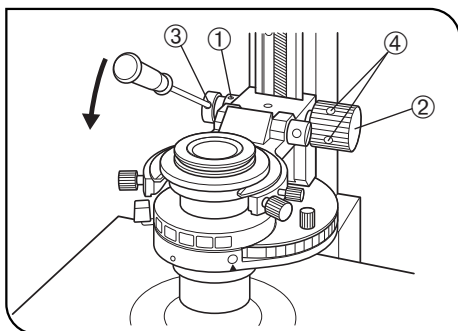

Fig. 34
4 Adjusting the Condenser Height Adjustment Knob Tension (Fig. 34)
1. Loosen the two knob clamping screws ① on the left adjustment knob using the Allen screwdriver. When the handle ② has been moved to the left, restore it in the position as shown in Fig. 34.
2. Insert the Allen screwdriver into the hole ③ on the condenser height adjustment knob ② and, while holding the knob, turn the screwdriver in the direction of the arrow to increase the rotation tension of the knob or in the opposite direction to decrease the tension.
3. After adjustment, tighten the two clamping screws ① securely.